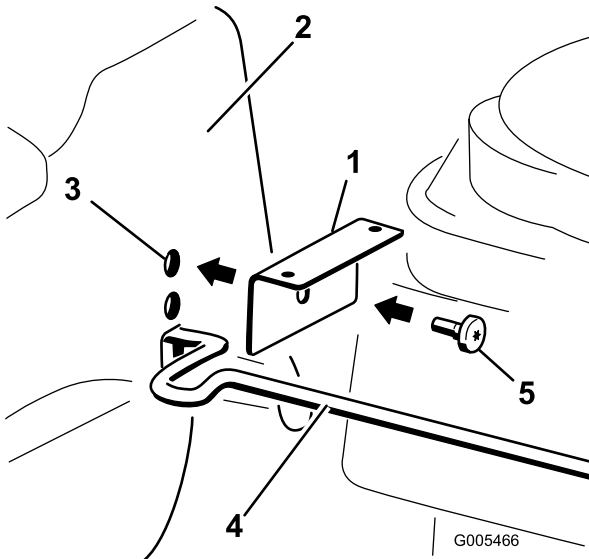

Figure 4
- Install a bracket on the outside of the upper hole in the pod as shown in Figure 4.